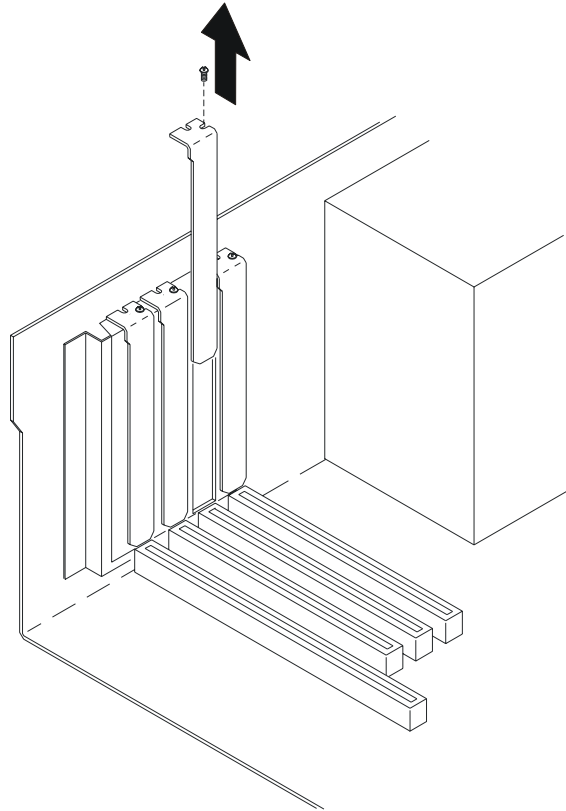

Figure 4-2
3. Remove the corresponding expansion slot cover (Figure 4-2) from the computer chassis.